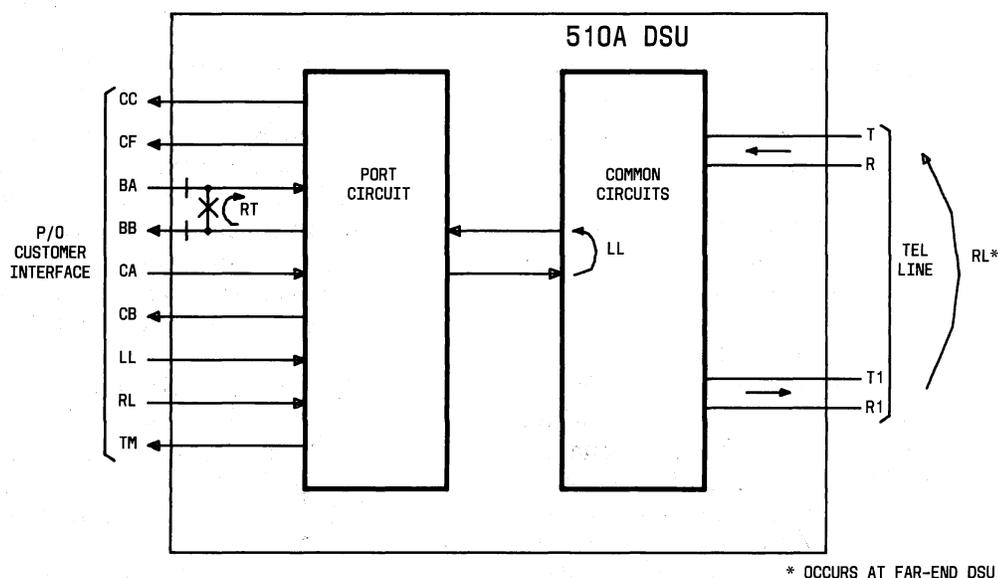

Fig. 11—Station Controlled Loopback Test Modes
**3.09** Each DSU port has several test modes which aid in circuit verification and trouble location and the test conditions on each port are independent of those on any other port in the DSU. A brief description of each of these test modes is given below and the loopback locations are shown in Fig. 11.